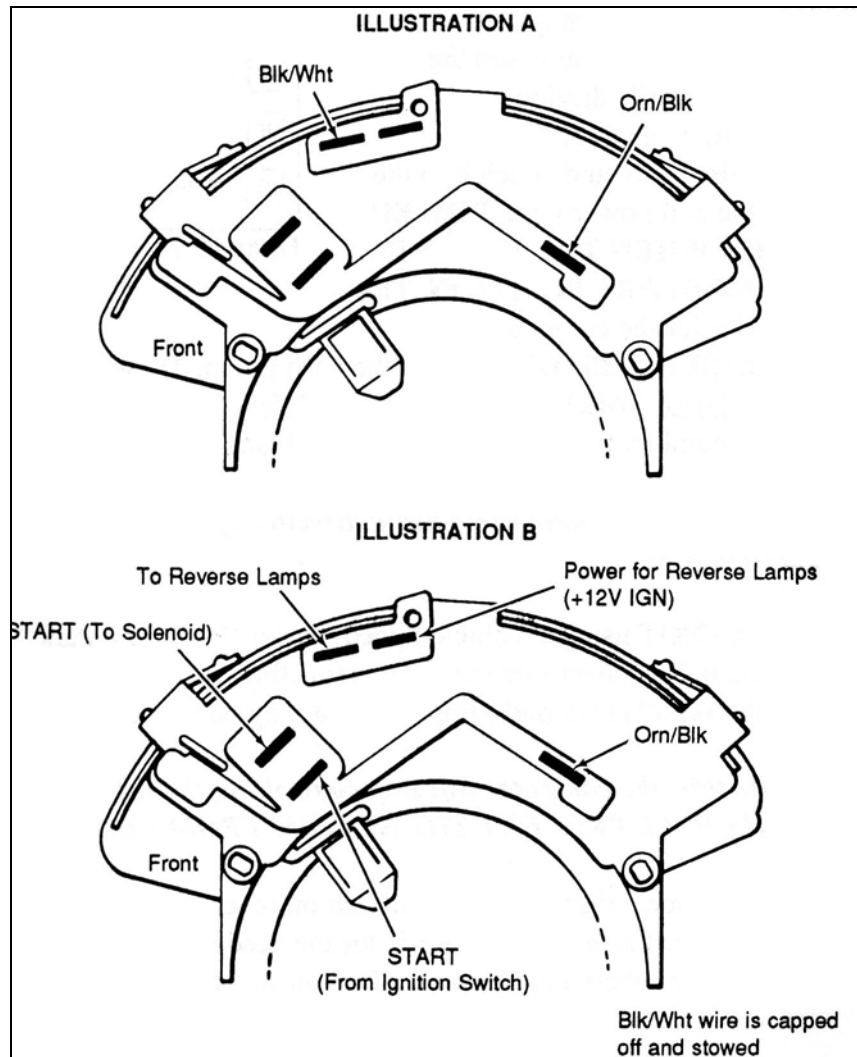

Figure 6.2 Neutral Safety Switch
- D. Locate the Orn/Blk and Blk/Wht wires in the dash group. These two wires are for the Park/Neutral Selector Switch, NOT the Neutral Safety Switch. If you have a GM column then you can use the combination switch P/N 15679680 and wire it as shown in **FIGURE 6.2**.
2. The recommended switch is a combination reverse light AND neutral safety switch. You may use it for these purposes AND for the needed computer signal if you wire it EXACTLY as shown in **Figure 6.2**. You will need to tape off and store the Blk/Wht wire in this case.
3. If you are going to use the recommended switch for the computer's benefit ONLY, then you will wire it as shown in **Figure 6.2**.